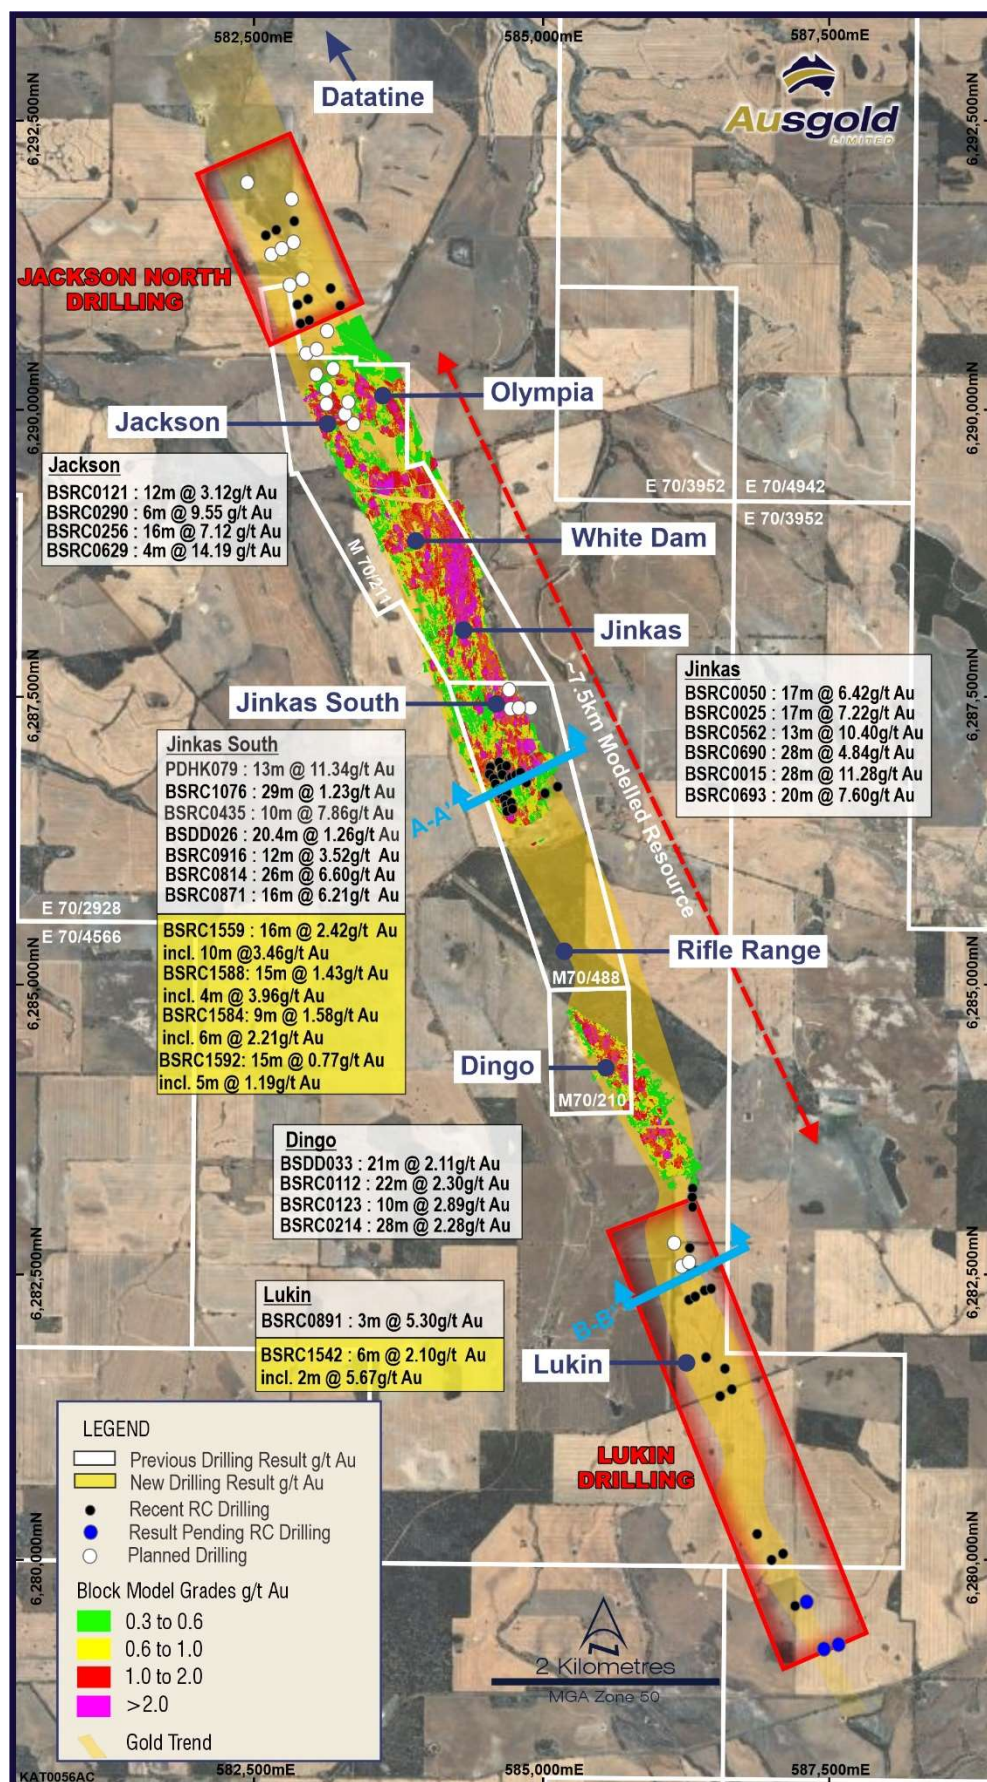

Figure 1 – KGP Resource with new and planned drilling with Resource block model
Near-surface higher grade gold mineralisation has been intercepted within the Central Zone (Figure 1) as part of the current drilling campaign (25 holes for 1,632m). These results continue to add confidence to the KGP Resource and mining model, will contribute towards increasing the average grade of the Resource, and provide high-grade feed within the early stages of the open-pit mining operation.
Nine reconnaissance RC drill holes for 959m have been completed within Northern Zone, targeting gold mineralisation over a 1.5km strike extent directly north of the current Central Zone Resource known as the Jackson area (Figure 1). To date, very limited drilling has been completed in this area, with geophysics and mapping of limited outcrop suggesting the mine sequence continues northwards from the Central Zone and potentially extends as far as the Datatine Resource area.
- RC drilling has been completed targeting the White Dam high-grade lode focusing on areas of early production identified in the Prefeasibility Study (Figure 1). Assays are pending.
- Further exploration RC drilling is planned at Lukin to follow up from promising early results with the aim to extend the current Resource southward (Figure 1). RC and diamond drilling is underway in the Northern Zone of the KGP, both at Jackson North (Figure 1) and Datatine, with the aim of this drilling being to extend the current Central Zone Resource north and increase the current Datatine Resource (currently 26Koz).